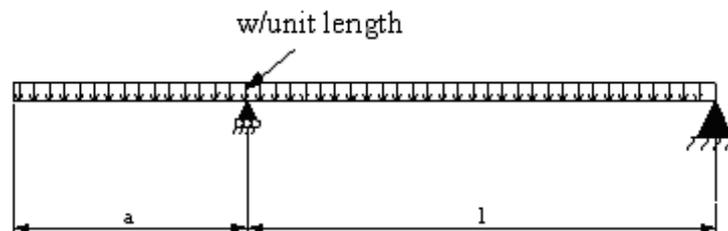

Figure 2
2. Calculate the value of 'a' so that the maximum positive bending moment is equal to the maximum bending moment for the beam as shown in the Figure2. Draw the BMD using the calculated value of 'a'. [16]